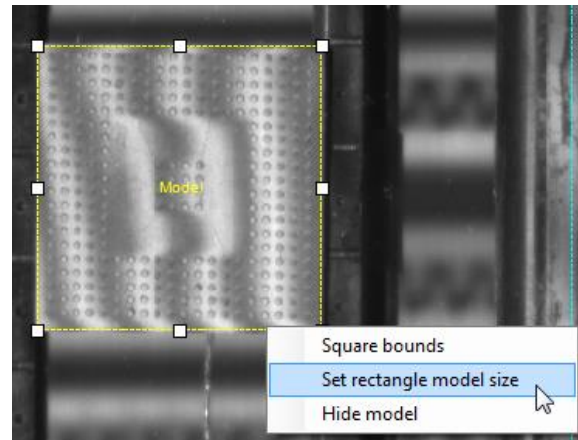

Figure 2.45 Set Model Size
4. Size the yellow 'Model' ROI so that it exactly contains one of the parts. Right click on the model ROI and select 'Set rectangle model size' (**Figure 2.45**).
6. Right click on the camera window and click Acquire (**Figure 2.45**).